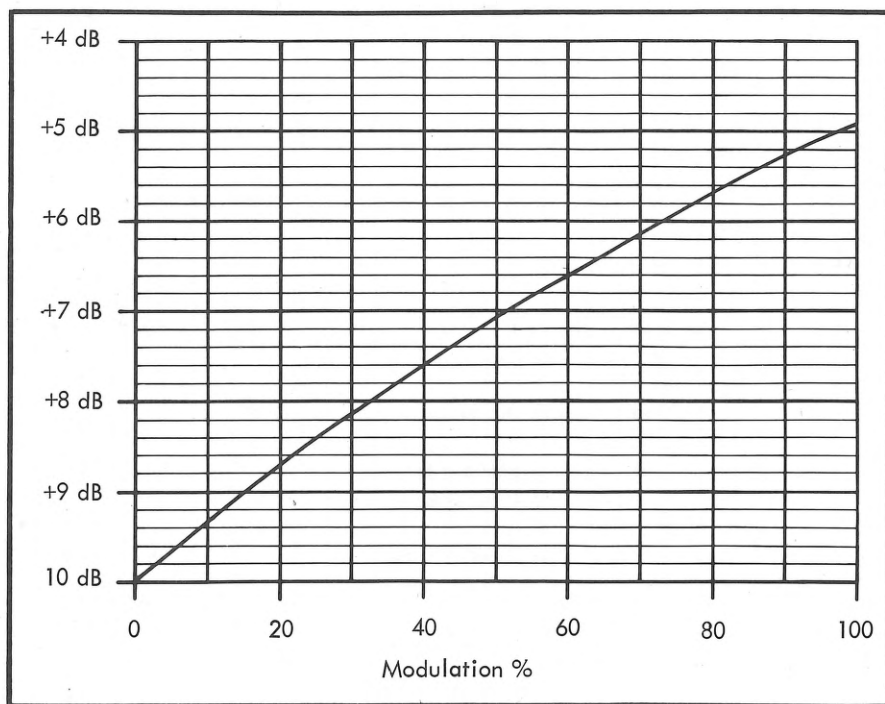

Figure 6. Modulation Chart
3. Move the VOLT AVG-PEAK switch to AVG. The percentage of modulation may be found from the chart in Figure 6, by noting the modulation percentage corresponding to the new meter reading.